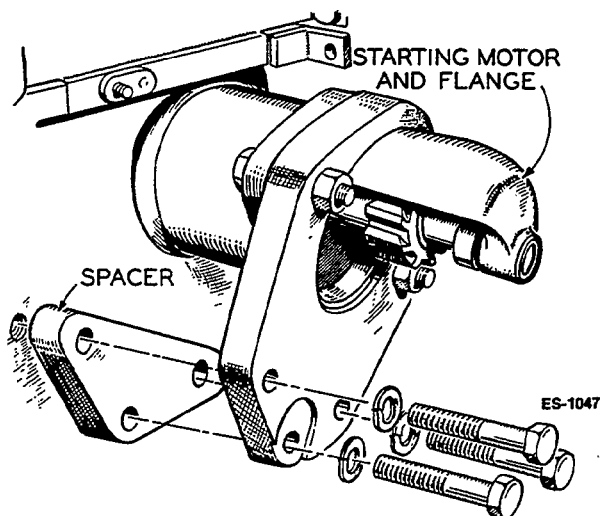

FIGURE 89. STARTING MOTOR FLANGE
9. Mount starter motor to engine by a direct reversal of the removal procedure (Figure 89). Connect battery cable and wires to starter.